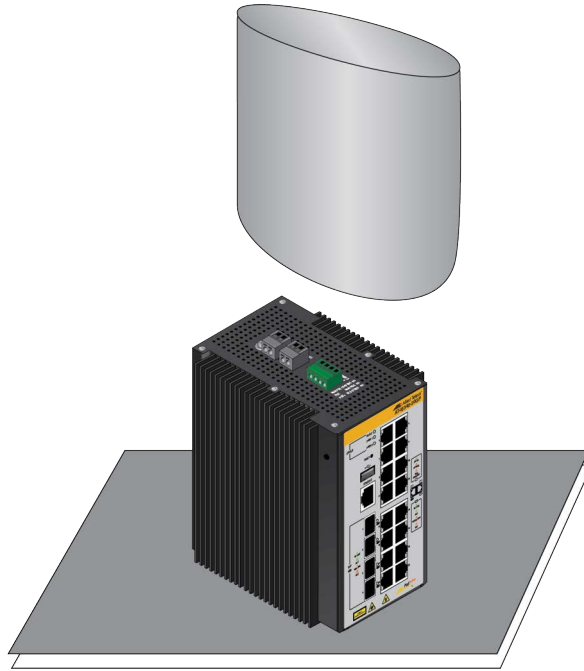

Figure 18. Removing the Switch from the Anti-static Bag
2. Remove the switch from the anti-static bag and place it on a level, secure surface. Refer to Figure 18.